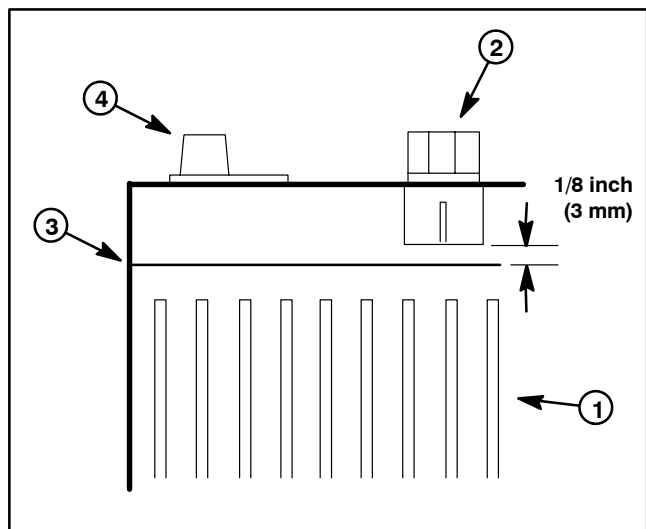

Figure 46
Make sure to have the battery cell plates covered with electrolyte before charging the batteries (Fig. 46). Periodically (at least every 50 operating hours) check electrolyte level in the batteries and add distilled water to ensure proper charging and the best battery performance and life.
6. Check the electrolyte level in each cell. If the level is below the tops of the plates in any cell, add just enough **distilled** water to the cell to cover the plates. Replace filler caps and charge the battery (see Operator's Manual). After charging, check electrolyte level in all cells and add **distilled** water until the level is 1/8" (3 mm) below the bottom of the fill well (Fig. 46).